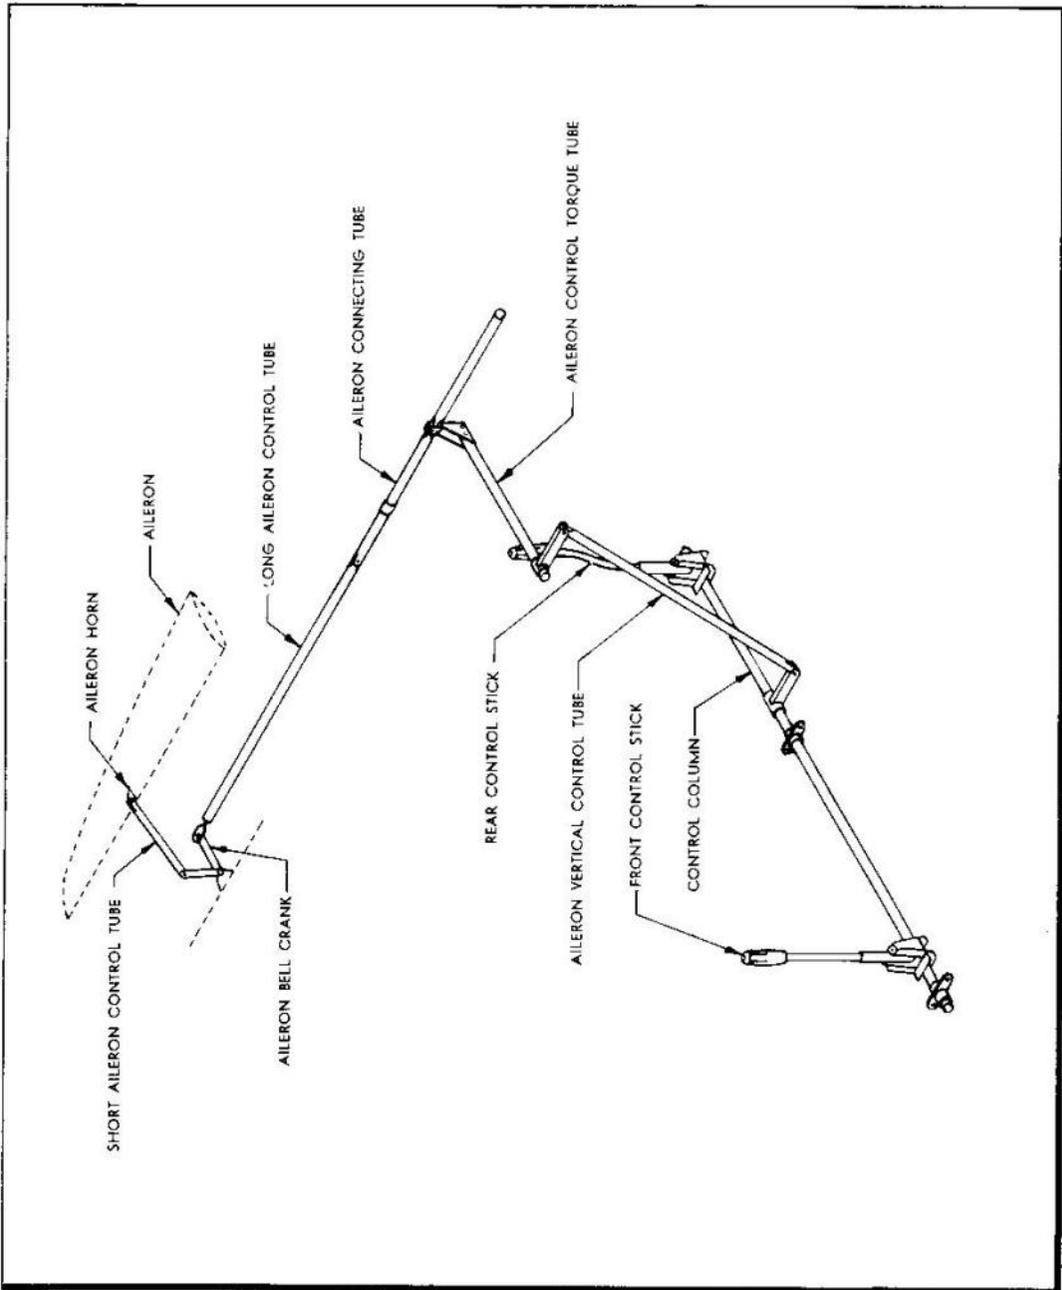

Figure 20 - Aileron Controls Diagram
d. Ailerons are controlled by moving the stick from side to side by control tubes and a bell crank located in the wing. (See figure 20.)